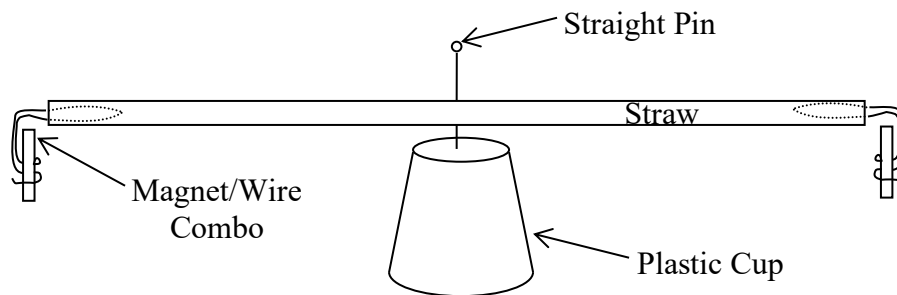

Fig. 3: Constructed and properly balanced compass.
- Balance the straw on the cup. If using a plastic cup, DO NOT poke the pin into the cup. Small adjustments may be necessary. (Recall the torque investigation with the meter stick and hanging masses.) If the straw tips toward one end, push in or pull out the wire loops slightly until balance is achieved. If the straw tips to the side, rotate the wires in the straw slightly until balance is achieved. When finished your compass should balance horizontally as shown in Fig. 3 below.